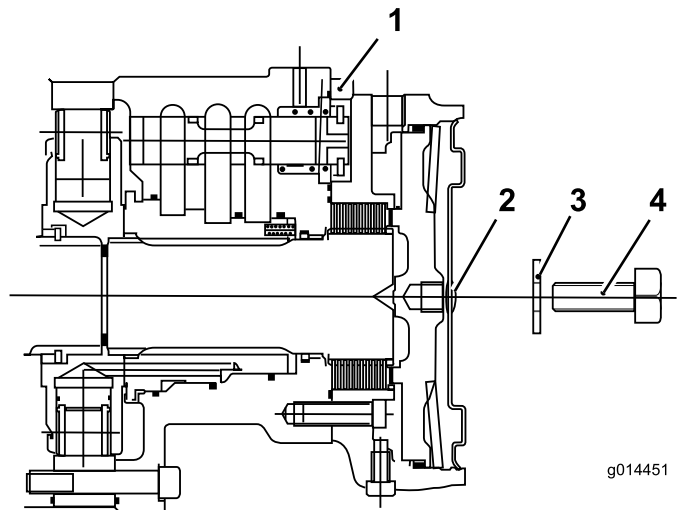

Figure 40
1. Remove the bolt 12 x 40 mm and washer 12 mm from the hole at the center of the motor end plate (Figure 40).